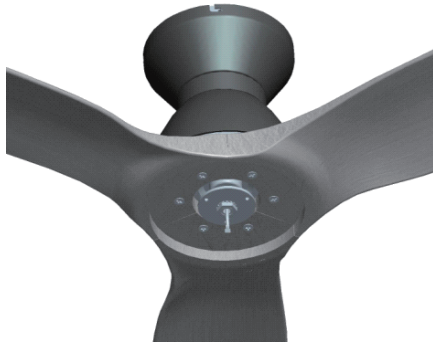

Fig 7.2
7.2 Three blades installed as shown in Fig 7.2.